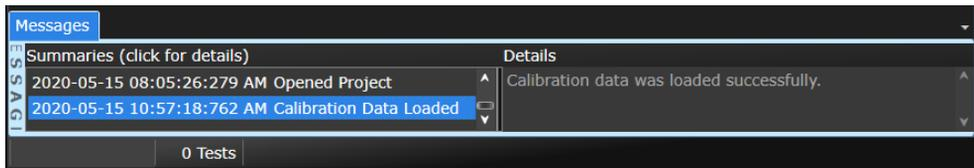

Figure 22 Set Up tab view after successfully loading Calibration Data
- 4 The **Messages** area of the OIF-CEI-112G Rx Test Application indicates whether or not the calibration data was loaded successfully (Figure 22).